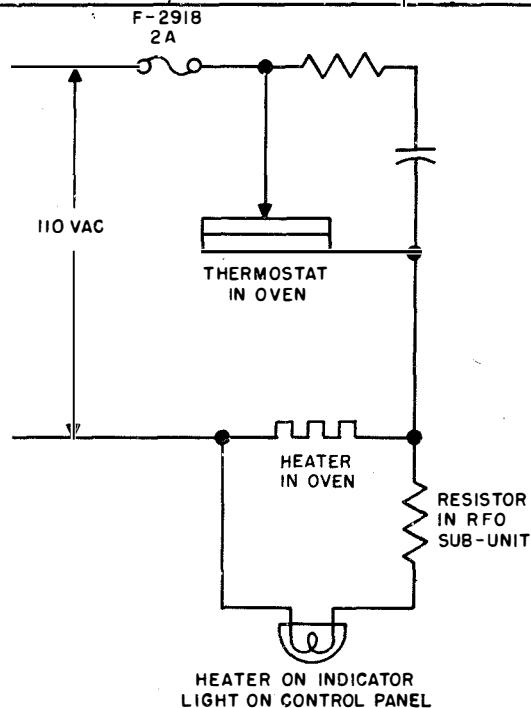

Figure 2-40. RFO Oscillator Heater Circuit, Generalized Schematic
(1) HEATER INDICATOR LIGHTS.—The heater indicator light circuits are shown in figures 2-3, 2-10, and 2-11. A generalized circuit is illustrated in figure 2-40.